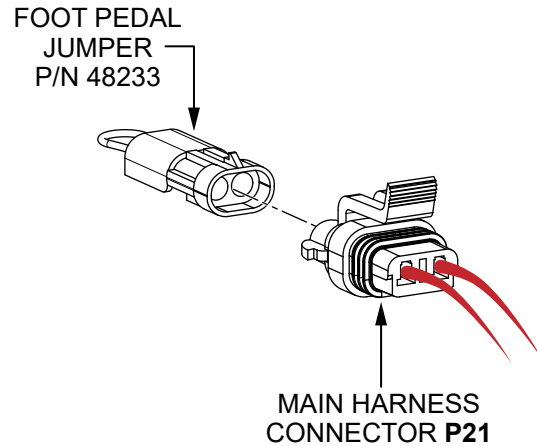

Figure 3. Connect Foot Pedal Jumper To Main Harness
2. Connect the **foot pedal jumper (P/N 48233)** to **main harness connector P21**. See Figure 3.